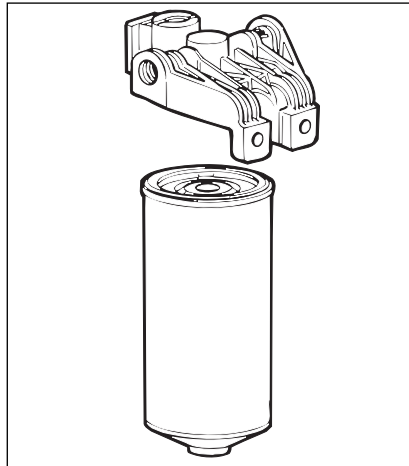

Figure 20. Typical Spin-On Type Fuel Filter
3. Using a suitable band type filter wrench, remove the primary and secondary fuel filters. See Figure 20. Dispose of the filters in an environmentally responsible manner, according to state and/or federal (EPA) recommendations.